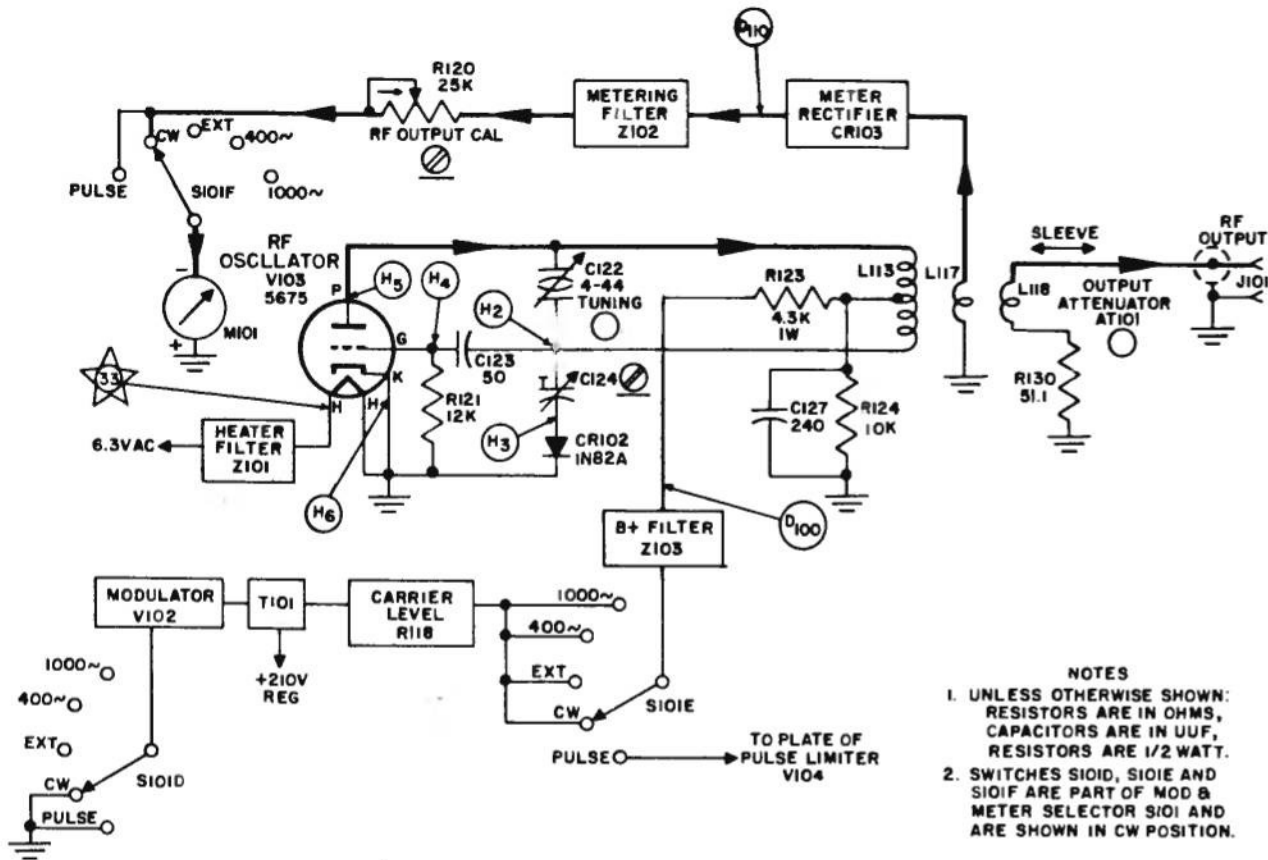
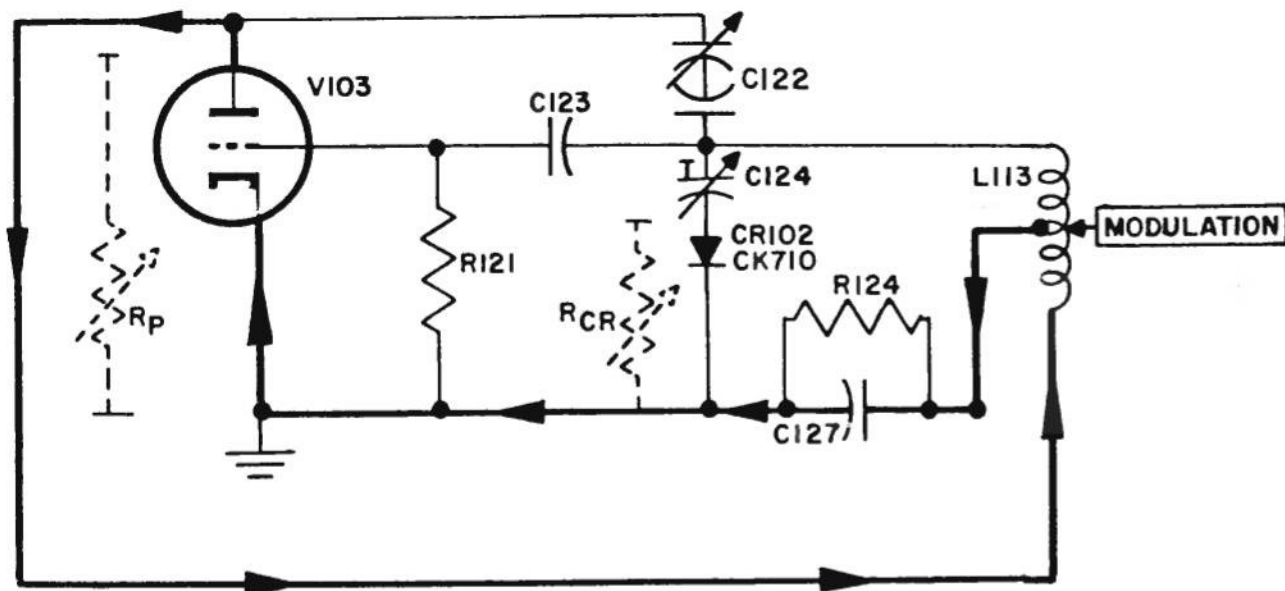

Figure 4-2. Simplified Schematic Diagram of the RF Oscillator, Set at Band C.
Figure 4-3. Equivalent Circuit of RF Oscillator With Frequency Modulation Compensator.
4-2. CW OPERATION. (see figure 4-2.)
b. CARRIER OSCILLATOR. — The carrier oscillator (V103) is completely enclosed in a separate shielded compartment, located on the right side of Signal Generator SG-117/URM-26B when viewed from the rear. The stage operates as a Hartley oscillator on bands A through D by virtue of the tapped plate tank coil L113 being by-passed to ground at its center-tap, through C127, thus providing a coil center-tap connection for the cathode (also at ground potential). Bands A through D have the center-tap of the plate coil grounded similarly. At the two highest bands, the center-tap of the plate coil is above ground. Since the frequencies involved are so high, the interelectrode capacities of V103 predominate, providing a virtual split capacity, with ungrounded center-tap, generally called an ultra-audion oscillator. The six plate coils are mounted on a turret, rotated by the BAND SELECTOR knob on the front panel. Oscillator tube V103 is a type 5675 pencil-type triode, mounted on plated snap-in contacts built on the same sub-assembly that contains the main tuning capacitor C122. Plate voltage and modulation (where used) are introduced through rf choke L109 and dropping resistor R123 (figure 4-2.) as well as through B+ filter Z103. Additional rf filtering is provided by heater filter Z101 not shown in this partial schematic diagram. Class C bias for V103 is developed across grid leak resistor R121 in association with grid blocking capacitor C123. Capacitor
c. FREQUENCY MODULATION COMPENSATOR. — Although of no concern in cw operation, parasitic frequency modulation may occur when the carrier oscillator is amplitude modulated. The spurious fm increases the band width of the modulated signal and is undesirable for aligning narrow band receivers. The reason for parasitic fm is best explained in terms of the variable reactance introduced by the modulating signal across the oscillator tank. When the audio modulating voltage is applied to oscillator tank coil L113 (figure 4-2.), the instantaneous plate resistance R_p of oscillator V103 is varied accordingly. See figure 4-3 for the equivalent circuit. The only change has been in the arrangement on the paper. The circuit is the same as figure 4-2. The variation in instantaneous plate resistance is shown as a variable resistor R_p . At the same time the second half of the tank coil is across the grid circuit. Across the grid coil is the FM Compensator, consisting of diode CR102 and a small factory-set trimmer, C124, which allows some of the tank energy to pass through the diode. The diode is a rectifier, thus acting as variable resistor in the grid circuit to offset the variable resistance R_p in the plate circuit. Since grid and plate ends